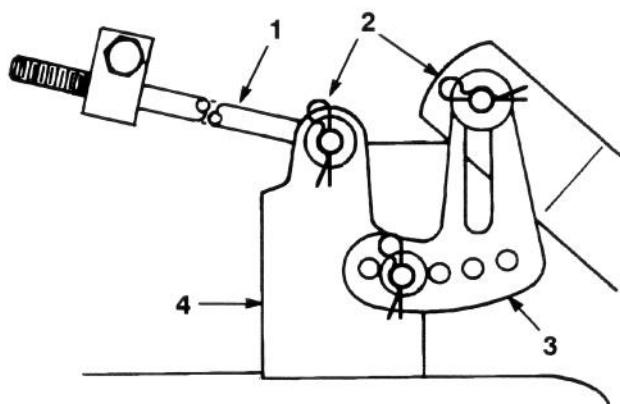

Figure 44
- Slide the end of the long rod through the hole in the mower mount (Fig. 44). Install the washer and hair pin cotter to secure the rod in place. Repeat this step on the opposite side of the mower.
- Mount the slotted mower leveling bracket onto the pin on the height-of-cut arm (Fig. 44). Install the washer and hair pin cotter to secure the mower. Repeat this step on the opposite side of the mower.